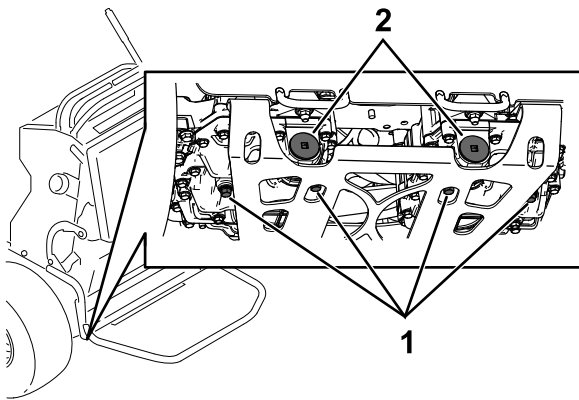

Figure 78
5. Locate the drain plug in the bottom of each transmission and place a drain pan under the plugs (Figure 78).